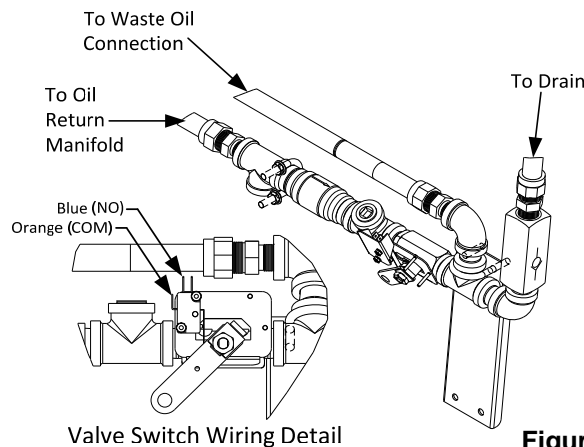

Figure 3
9. Position the waste oil plumbing assembly, and attach using provided screws into existing holes. **See figures 3, 5, 6, 7, 8, 9 and 11.**
16. Plug the other ends of the new jumper wire harness wires into the terminals on the dispose valve switch on the oil disposal assembly. **See figures 3 and 4.**